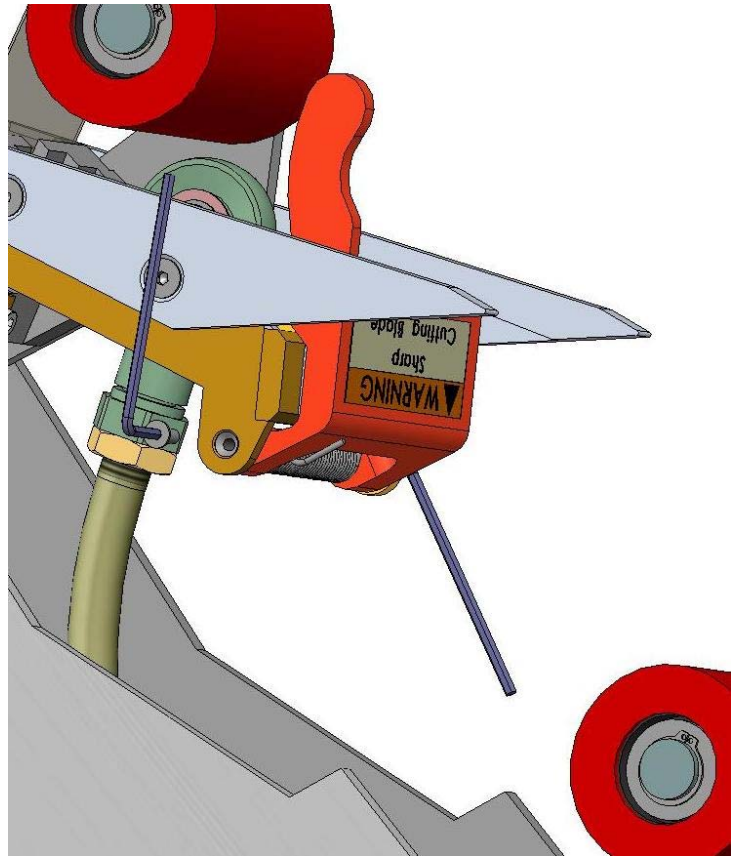

Figure 10-18
1. Apply some Blue Loctite to the threads of the M3 screw and fasten to the end of the cross shaft. Tighten using two 2mm hexagonal keys as shown in **Figure 10-18**